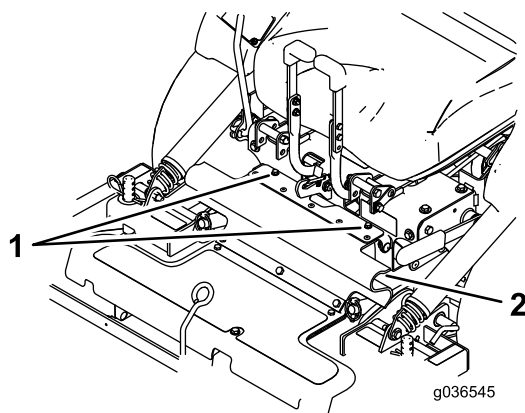

Figure 10
3. Loosen the bolts attached to the rubber guard (Figure 10).